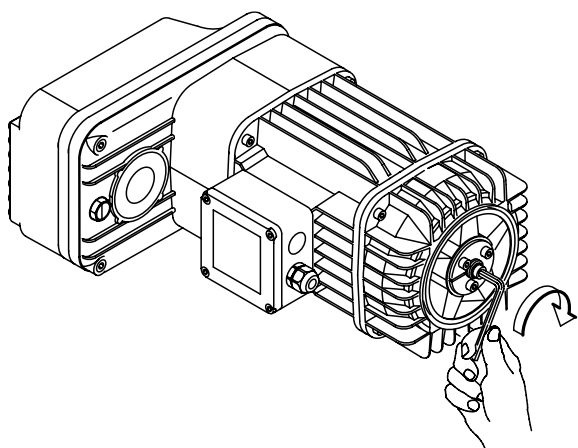

fig. 157
2. Reposition the central Allen screw (with the desired number of washers) and securely tighten the Allen screw (fig. 157).